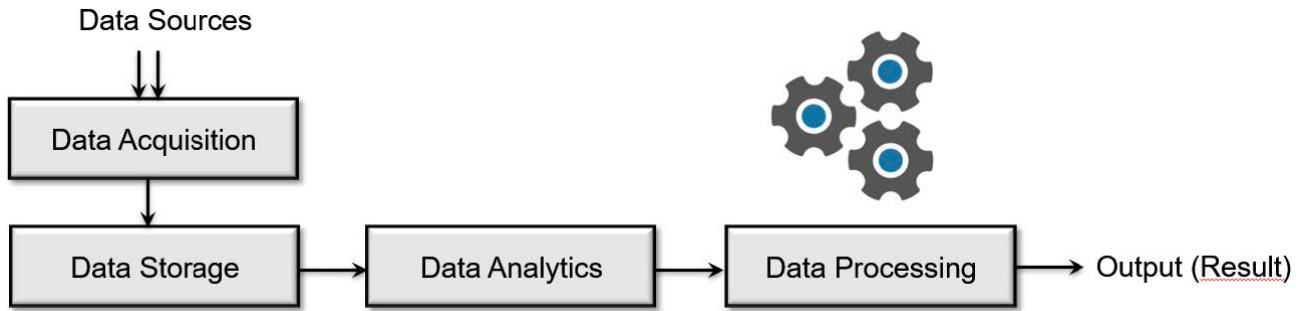

Figure 2: A simplified example of a data processing system (Source: Softing Automotive)
- ◆ Data has no value unless it is acquired, stored, decomposed, analyzed, converted, and processed. Figure 2 shows a simplified example of a data processing system.